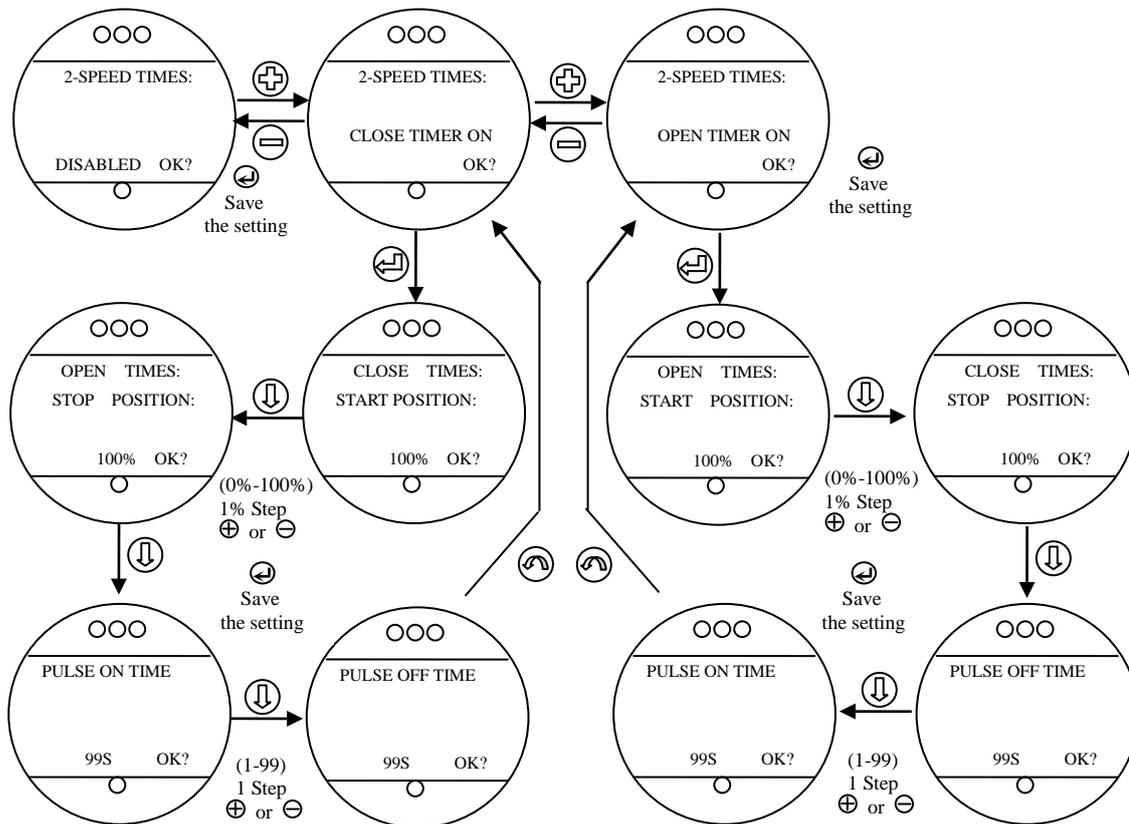

Fig. 4-12
1. Switch menu to “**ADVANCED CONTROL MODE: / 2-SPEED SETUP ?**”, see **Fig. 4-12**. Press “**↵**” to enter the routine procedure.